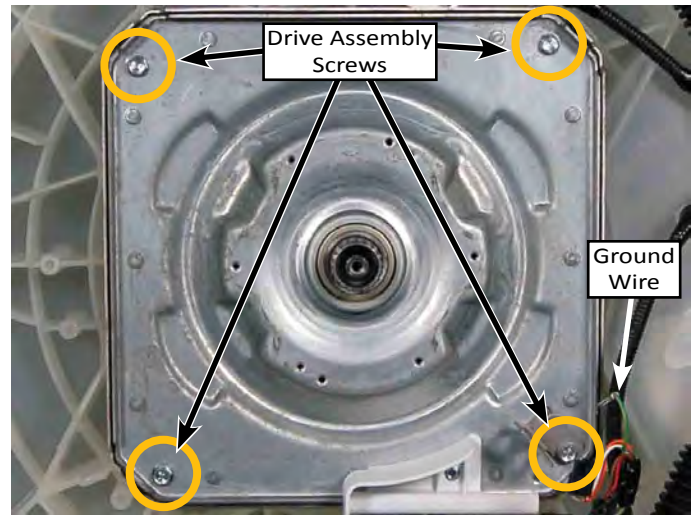

Figure 2
**REASSEMBLY NOTE:** The four (4) drive assembly screws are threaded into the bottom of the plastic tub (see Figure 2 above). Using a power driver to tighten the screws may strip the holes. Tighten only by hand until very snug.